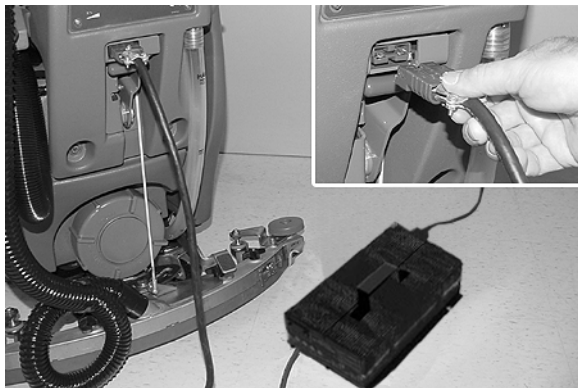

FIG. 41
6. Connect the charger's DC cord into the machine's battery receptacle at the rear of the machine (Figure 41).